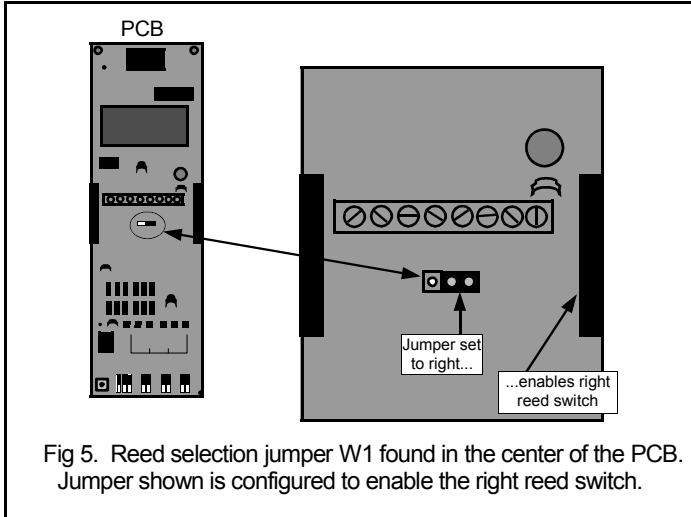

Fig 5. Reed selection jumper W1 found in the center of the PCB. Jumper shown is configured to enable the right reed switch.
2. Reed selection jumper W1 is located in the center of the PCB. The jumper should be set to the side of the unit that will have the magnet installed. (See Figure 5 below).